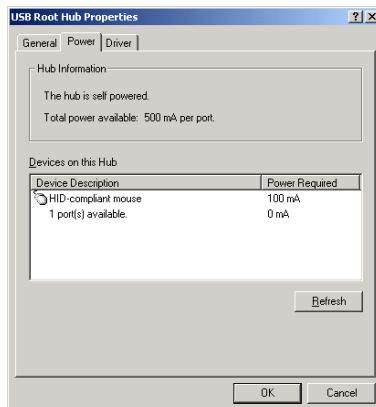

Fig. 1-1 Displaying the total available power of a USB port
- *Select the Power tab (Fig. 1-1). If the hub is self-powered and the total power available is, as indicated by Hub Information, 500 mA per port, high-power devices can be connected.*